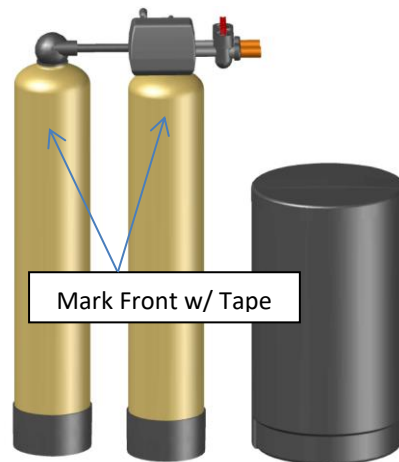

Figure 8: How to Block Distributer Tube
- 3. Cover the exposed end of the distributor risers to make sure no resin gets inside the tube. Covering up the risers with duct tape is one option, shown in Figure 8.